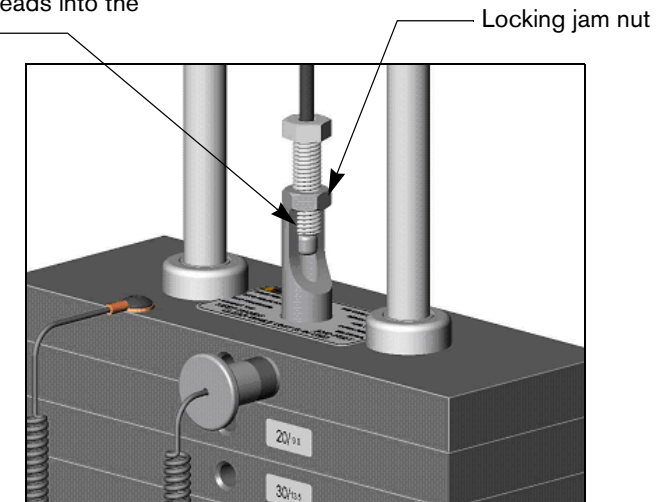

Figure 2: Proper cable bolt insertion
- Make sure that the cable bolt is threaded at least seven turns into the selector stem or a minimum of ½-inch (13 mm). The distance shown should be ¾-inch (19 mm) or less. Tighten the locking jam nut to 600 in-lb (68 N-m). Refer to Figure 2.